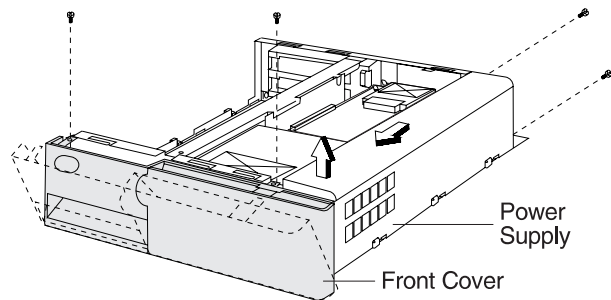

Figure 2-4. Removing Front Cover and Power Supply
- 7 Slide the power supply toward the front (see arrows in Figure 2-4) until it stops, then lift it from the chassis. If the PCMCIA card is installed, it must clear the supporting tab before the power supply can be lifted out.